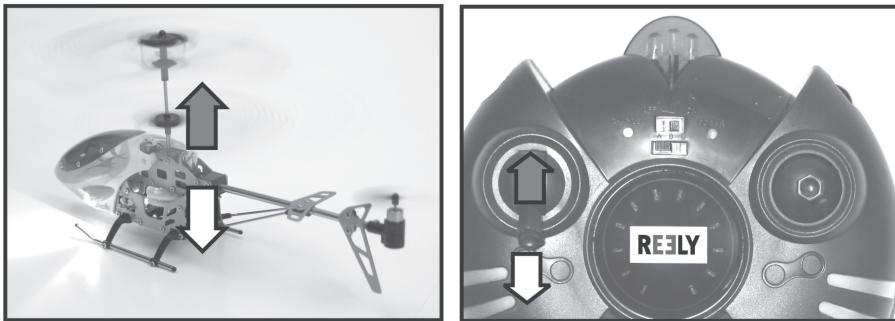

Figure 9
With the pitch function you can control the flying height of the helicopter (see figure 9). For control, the left control lever (also see figure 1, item 8) is used. It can be moved upwards from the lower position, into which it returns due to a spring. Since the angles of attack of the rotor blades are not modifiable, setting the flying height is effected via a common speed modification of the two rotors.